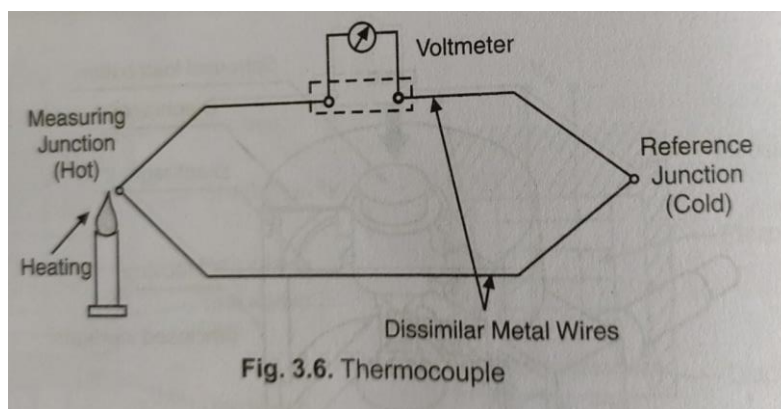

Fig. 3: Thermocouple
- Fig. 3 shows a thermocouple made from two different kind of metals.